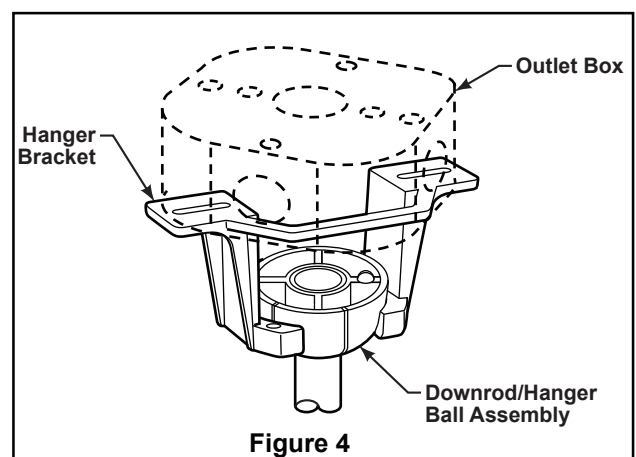

Figure 4
4. Slide downrod into the downrod support on top of the motor. Install the clevis pin by aligning the holes in the downrod support with holes in the downrod. Secure clevis pin with hairpin clip. Tighten the two set screws with nuts in the downrod support. (Figure 4)
2. Carefully lift the fan and seat the downrod/hanger ball assembly on the hanger bracket that was just attached to the outlet box. Be sure the groove in the ball is lined up with tab on the hanger bracket. (Figure 4)